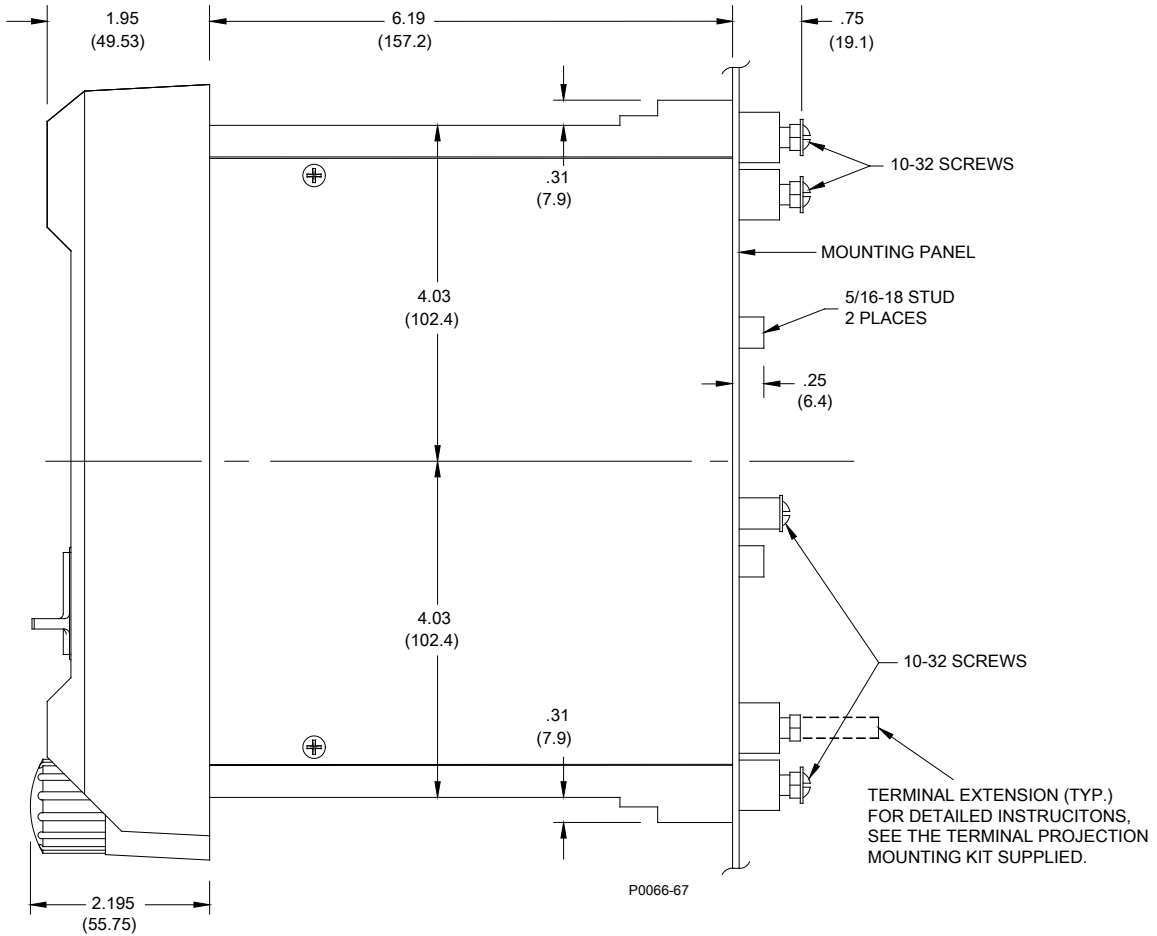

Figure 4-8. S1 Case Dimensions, Side View, Double Ended, Projection Mount
- Figure 4-8: S1 Case Dimensions, Side View, Double Ended, Projection Mount